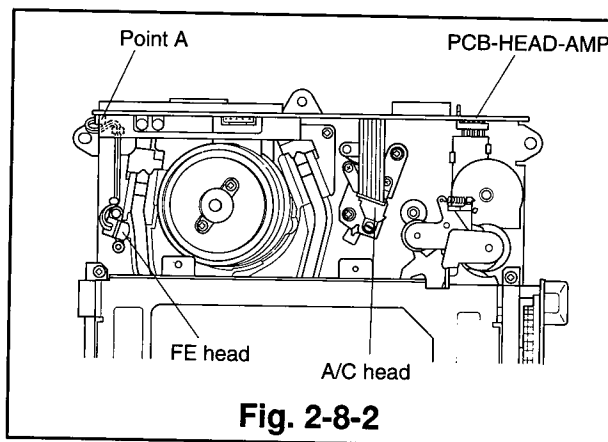

Fig. 2-8-2
- 4 Disconnect the lead connector (point A), connected to the FE head. (Refer to Fig. 2-8-2.)
- 4 Connect the lead connector, connected to the FE head, to the point A. (Refer to Fig. 2-8-2.)